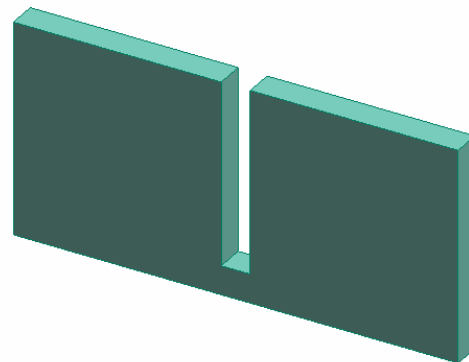

Figure 17. Extruded fence.
31. Extrude the profile above the workplane a distance of 3/4". The result should look like figure 17.